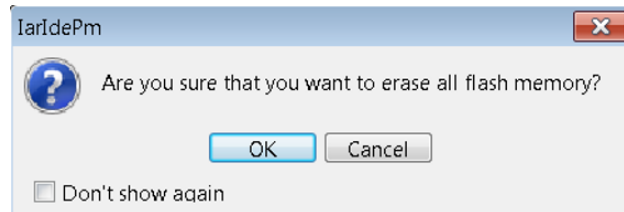

Figure 40. Erase All Flash Memory
4. The window shown in Figure 40 opens. Click **OK**.